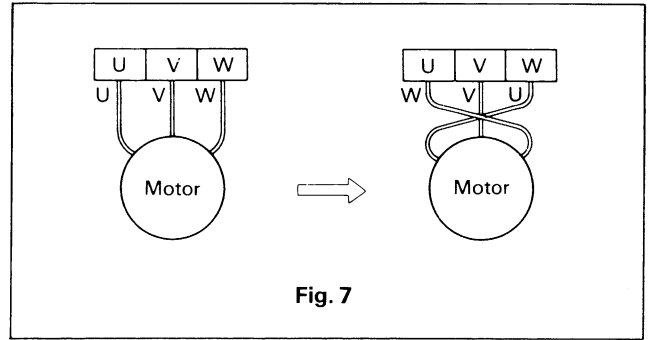

Fig. 7
- (2) Next, check direction of rotation. If discharge volume is low or unusual sounds are heard when the pump is operating, rotation has been reversed. When this happens, reverse two of the three wires (see Fig. 7).
- (3) When you have confirmed that rotation direction is correct, gradually open the cut off valve and check pressure, capacity, current, etc. (Refer to **Troubleshooting**.